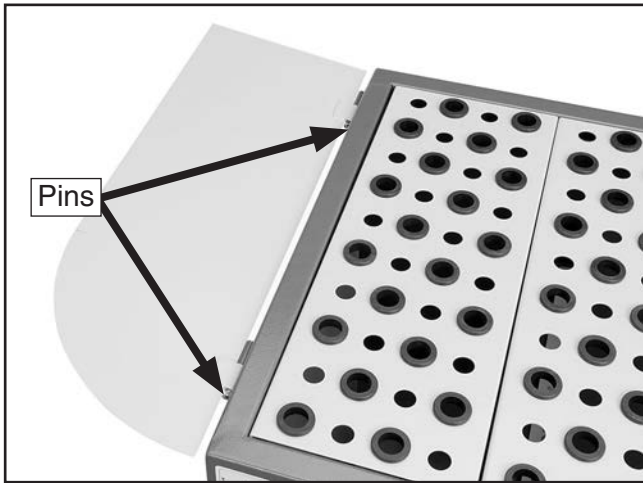

Figure 9. Left panel installed.
8. Secure right and left panels with remaining pins, as shown in **Figures 9–10**.